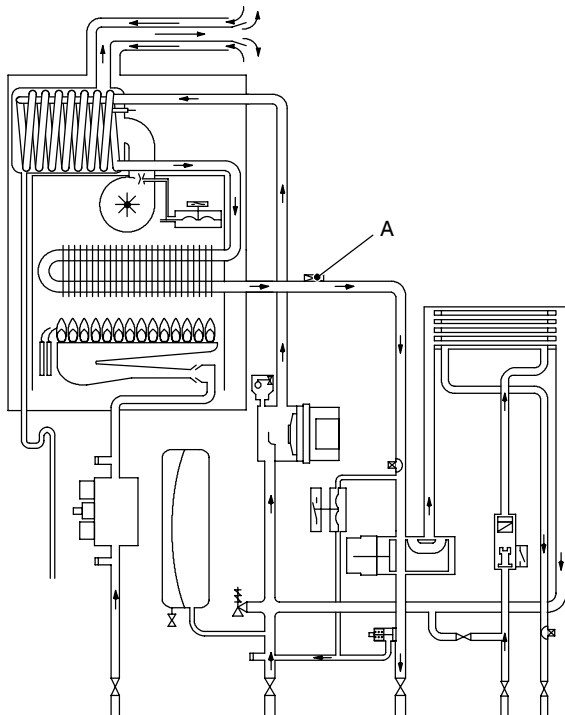
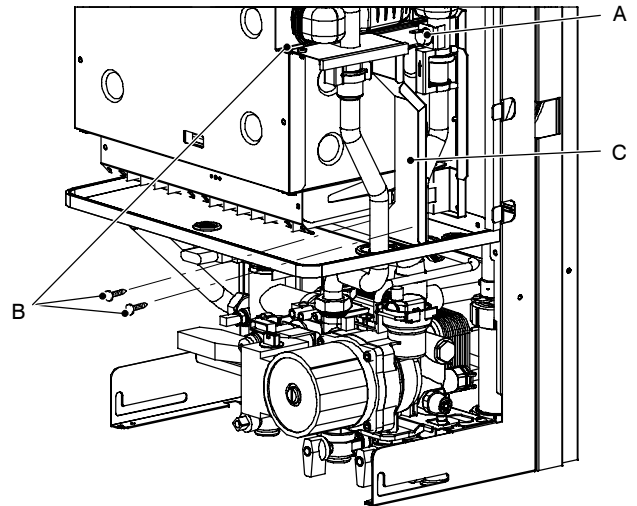

Fig. 77
Fig. 78
- 3 Remove the plate C (see Fig. 78 on page 35).
The safety thermostat *A* in Fig. 77 and Fig. 78 is a device that senses the temperature of the primary circuit water which flows in the outlet pipe of the primary heat exchanger.
- 2 Remove the screws *B* and the plate *C* (Fig. 78).
- 2 Remove the screw *B* and the plate *C* (Fig. 78).